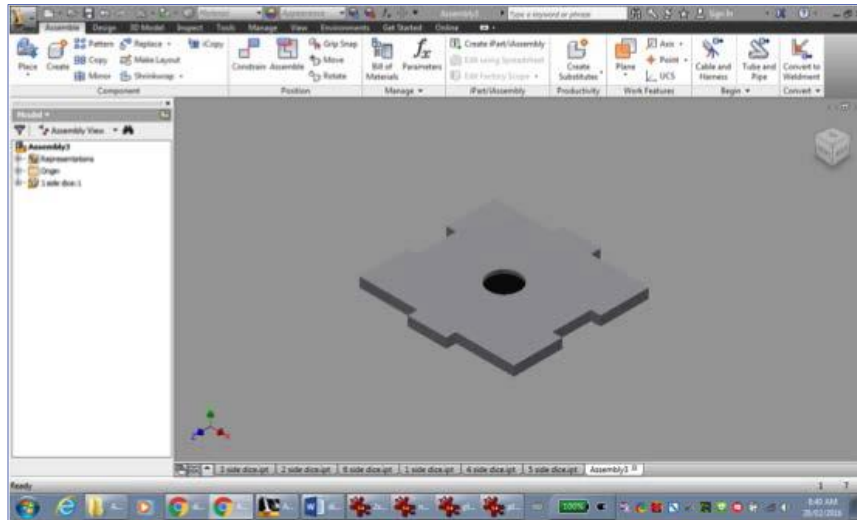

Figure 18
- Place the first part on the screen (Figure 18). This part can be called the grounded part. It is the part that every other piece is connected to. All other pieces will be based off it.